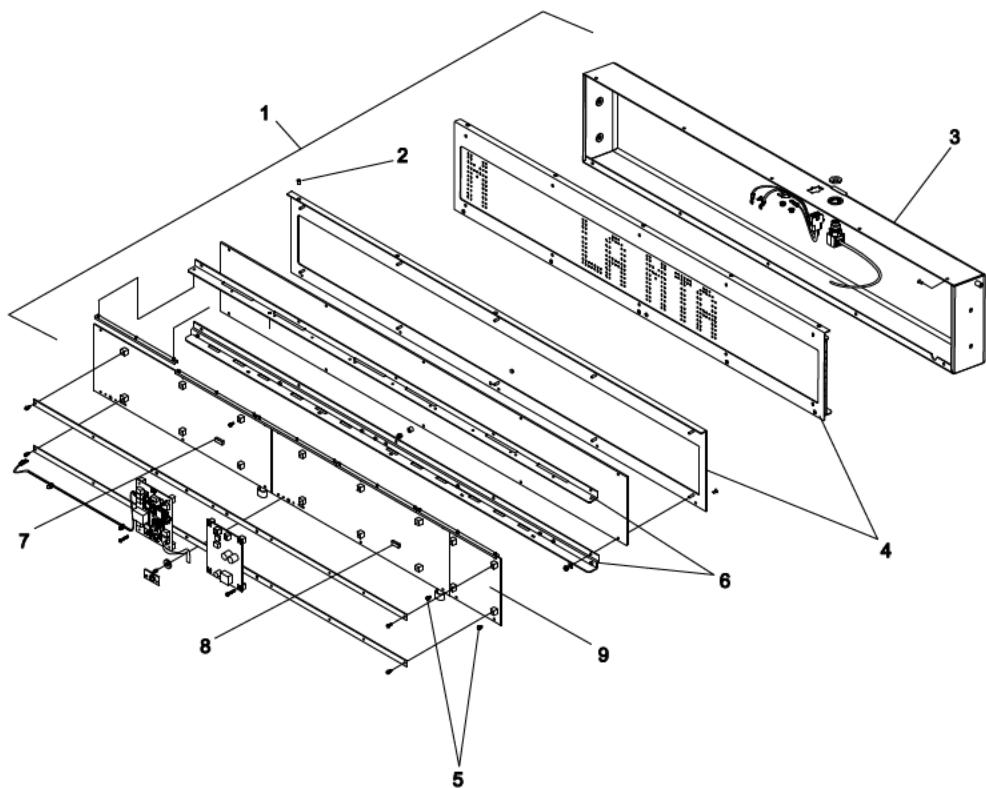

Figure 7-19: Replace Side Destination Sign LED Display Matrix PCB
1. Remove side destination sign assembly (1, Figure 7-19) from its mounted location.
2. Remove ten 6-32 x 5/16 SEM screws (2) that secure the housing assembly (3) to front panel assembly (4).
3. Carefully separate the housing assembly (3) from front panel assembly (4) to access electrical wiring and harnesses.
5. Remove 6-32 x 5/16 SEM screws (5) that secure the defective LED Display Matrix PCB to the bracket assembly (6). There are six screws on each destination matrix (7, 8) and four on the route code matrix (9).
7. Install the replacement LED Display Matrix PCB using the 6-32 x 5/16 SEM screws (5) that were removed previously.